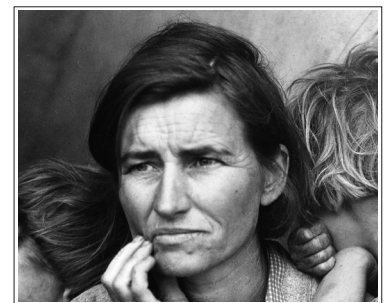

Fig. 8.1
Scans (or bitmap files) are images composed of pixels—the smallest building blocks of bitmapped art. The figures on the right show two basic types of scans. Figure 8.1 is a continuous-tone scan, and figure 8.2 is a bitonal scan.
**CONTINUOUS-TONE SCANS (8-BIT)** In continuous-tone scans, each pixel is one of 256 shades of gray, ranging from pure white to solid black. Because each pixel can vary in tonality, transitions from light to dark are smooth and realistic—as long as the **RESOLUTION** is high enough. Photographs and drawings with fine transitions between light and dark, such as figure 8.1, are ideal candidates for continuous-tone or 8-bit scanning.